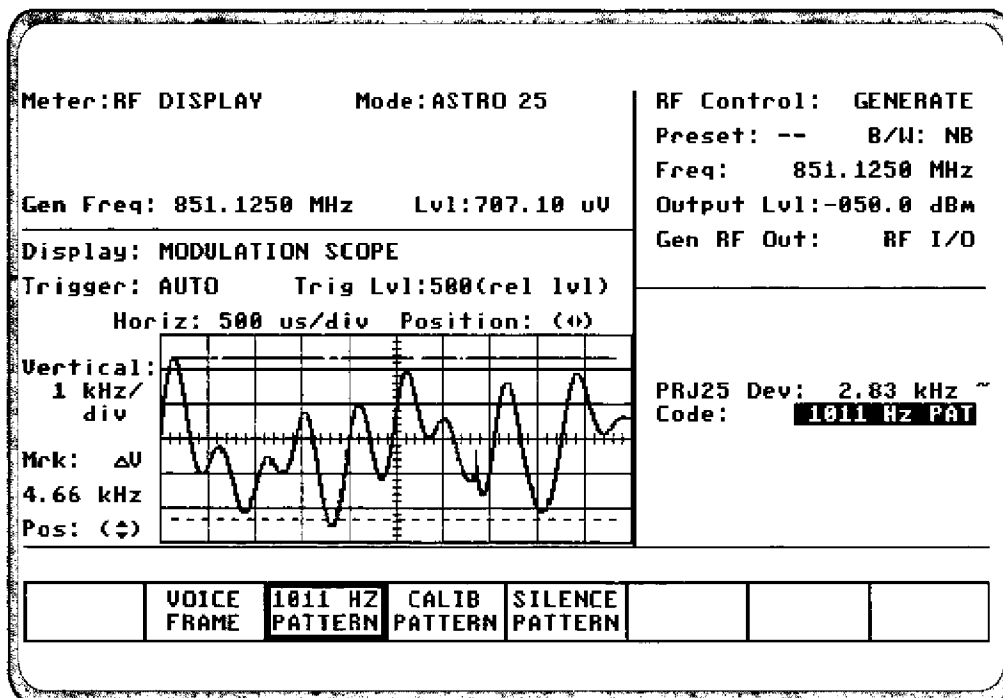

Figure 4-1. Radio (BER Test Mode) Audio Zone
2. Place the cursor on the "Code:" field in the Audio Zone (Figure 4-1) and select the **1011 Hz PAT** softkey. This will generate a 1011 Hz tone test pattern. If this pattern is received correctly by the unit under test, the BER measured by the unit under test should be zero.
- Place the cursor within the Audio Zone and place the cursor on the "Code:" field (Figure 4-1). With the cursor on the "Code:" field, select the **1011 Hz PAT** softkey.